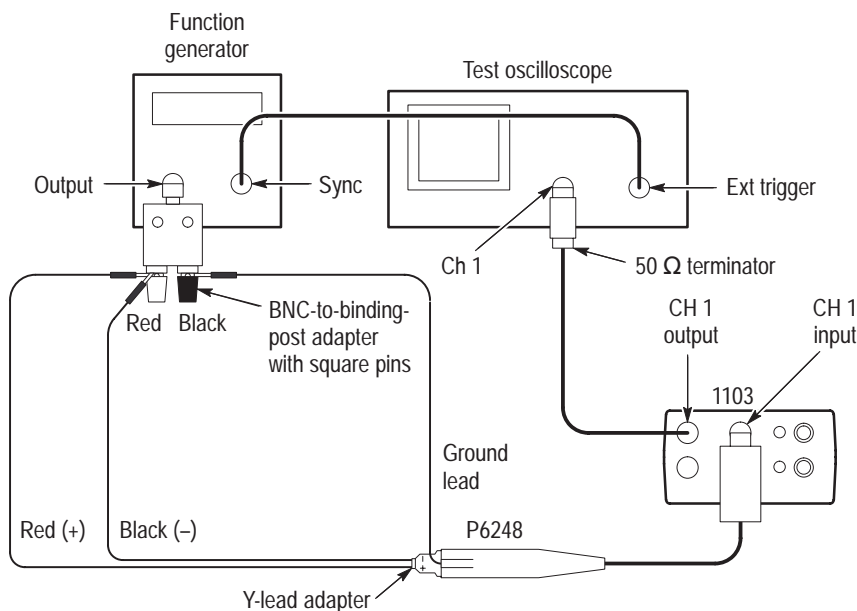

Figure 12: Setup for DC CMRR and AC CMRR adjustments
1. Set up the equipment as shown in Figure 12: